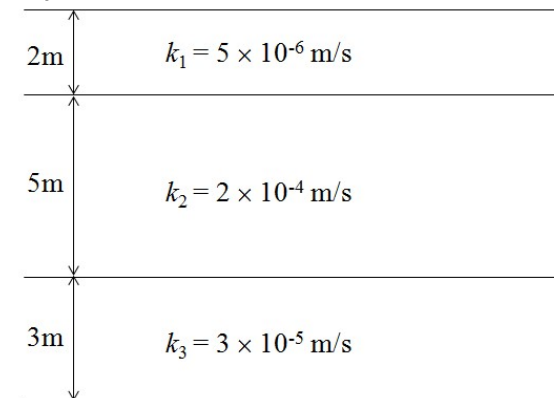

Figure 2
5.(a) A stratified soil deposit (Figure 2) has an average hydraulic gradient of 0.3 in both horizontal and vertical directions. Determine (i) the ratio of equivalent permeability in horizontal and vertical directions, (ii) discharge quantity in each layer and (iii) discharge velocity in each layer for horizontal flow.